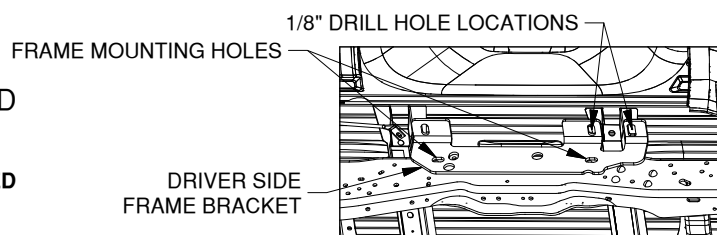

Figure A3: View looking into driver side wheel well.
- Check hole locations:** Using the frame brackets, align each bracket to the side of the frame where the brackets will be installed, see figures A3 & A4. Check that the 1/8" holes are centered within the slots in the frame brackets. If the 1/8" drilled holes are not centered re-drill the 1/8" holes until the brackets and the drilled holes are aligned.